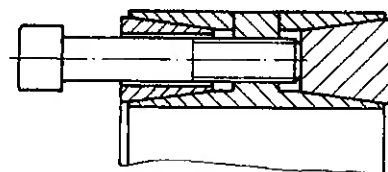

Fig. 8
- 2.2 The rear thrust ring is released by having the jack screws inserted in the threaded bore of the inner ring web and thus pushing it out (Fig. 8).